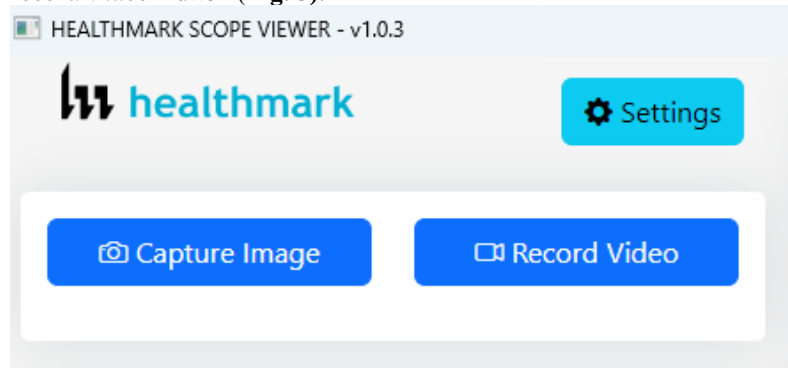

Figure 5
1. Select the *Record Video* Button (**Fig. 5**).